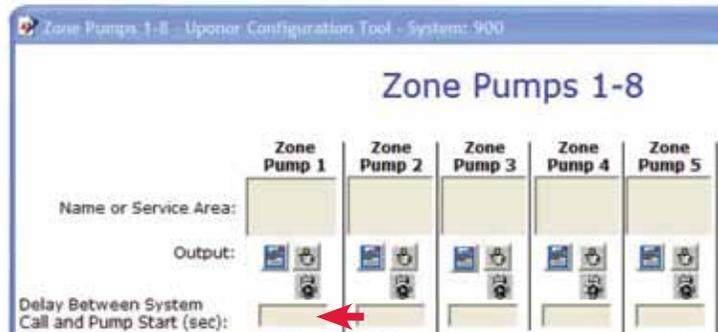

Figure 2.10-5: Zone Pump Start Delay
1. On the Zone Pumps screen, click in the Delay Between System Call and Pump Start (sec) box; see the red arrow in **Figure 2.10-5**.